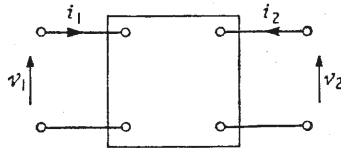

Fig. 1
(comparing Fig. 8(a) and Fig. 1(b)). From these results it is possible to draw curves relating oscillation frequency and d.c. input to the switch ( $\gamma_i$ ) with the mean level of the output. These are shown in Fig. 8(b) for the case when  $K = 1$  and  $\delta/h = \frac{1}{2}$ . Examination of the curve for  $\gamma_i$  shows that the switch behaves as a gain of about 5 over a large region of the characteristic which has considerable curvature over its full range. The oscillation frequency can be seen to vary considerably over the full range of output. Both oscillation frequency and gain are dependent on the ratio of  $\delta/h$  (being high when  $\delta/h$  is small) and also on the integrator d.c. gain  $K$ . The bigger the value of  $K$  the higher the gain through the switch to the d.c. signal. (For  $K = \infty$ ,  $\gamma_i$  is always zero.)
Referring to Fig. 2, assume that the triangular switching waveform is displaced to the right by an amount  $\gamma_i$ . This corresponds to the situation which occurs in the open-loop system (Fig. 1 (c)) when the audio input signal has an instantaneous value  $+\gamma_i$ .
Denoting  $T_2$  in Fig. 1 (b) by  $T_2 = t_2 - t_1$ , where  $t_2$  and  $t_1$  are the times at which the switch operates measured from the zero on the triangle in Fig. 4:—
READERS of last month's article on matrix algebra will recall that many arrangements of linear components may be regarded as four-terminal networks such networks being represented by a "black-box" as in Fig. 1.
The A-matrix and other matrices are all obtained by using one central idea or theme. From the quantities  $v_1, i_1, v_2, i_2$  in Fig. 1 we may regard any pair as known and the other pair as unknown. With  $v_2$  and  $i_2$  known,  $v_1$  and  $i_1$  can be expressed as in equations (1) and (2). From these equations the A-matrix is defined. Similarly the following matrices may be obtained: